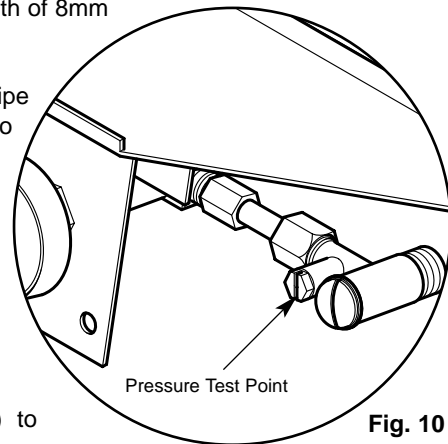

Fig. 10
11. Unscrew the pressure test point sealing screw (Fig. 10) and fit a manometer. Consult the user instructions (page 14). Ignite the appliance and turn to the high position.